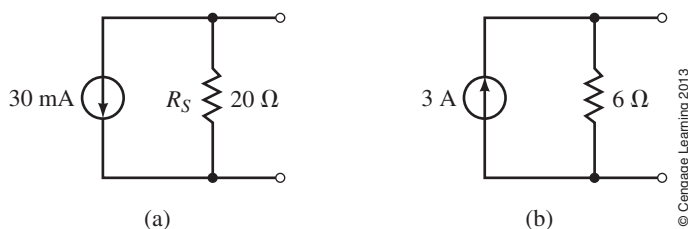

FIGURE 8–71
11. Refer to the circuit of Figure 8–72: